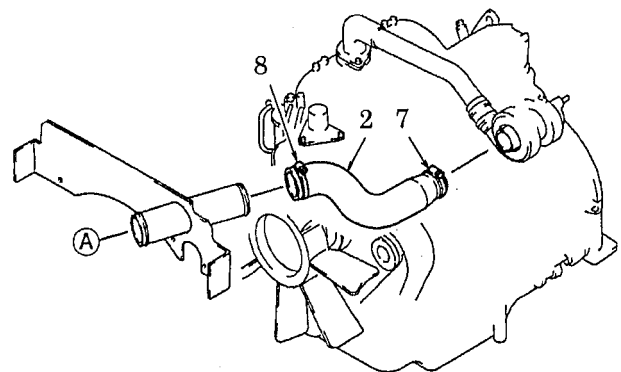

Fig. 8-2 Pulling out air hose (2)
- (2) Pulling out hose (2) (See Fig.8-2.).